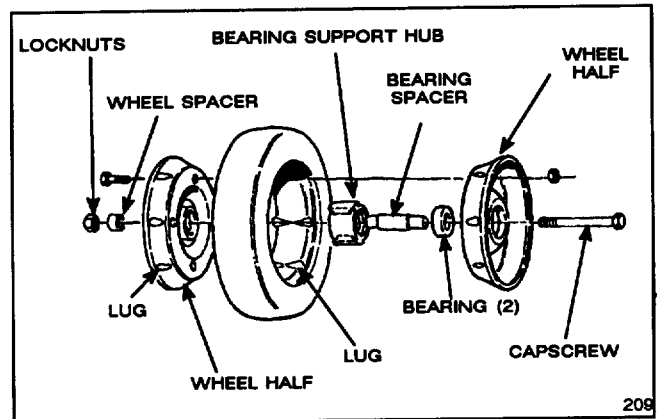

Figure 18
1. Remove capscrew, wheel spacer, and locknut mounting wheel to pivot arm (Fig. 18).
2. Separate wheel halves from tire by removing (4) flange capscrews and locknuts (Fig. 18).
1. Position tire onto (1) wheel half aligning lugs on each (Fig. 18).